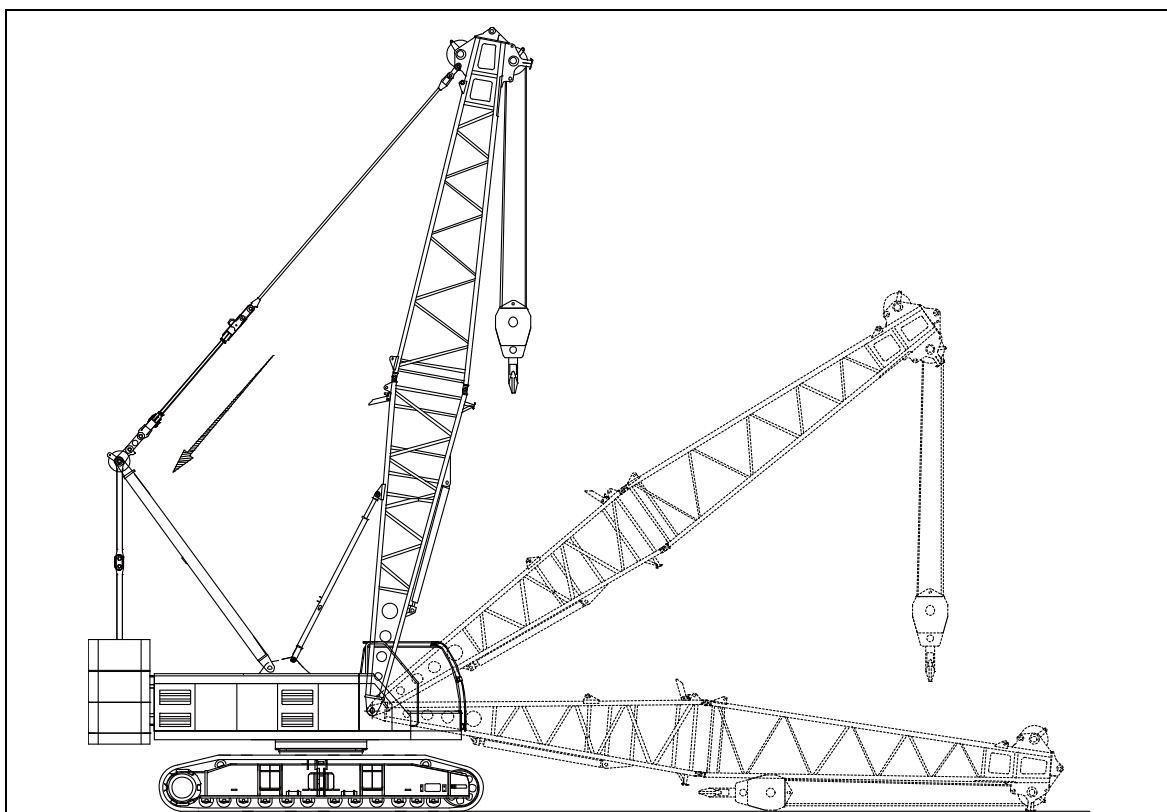

Figure 5-62 Raising main boom
- After raising main boom to required position, move right control lever to the neutral position to stop raising main boom. See the figure 5-62.